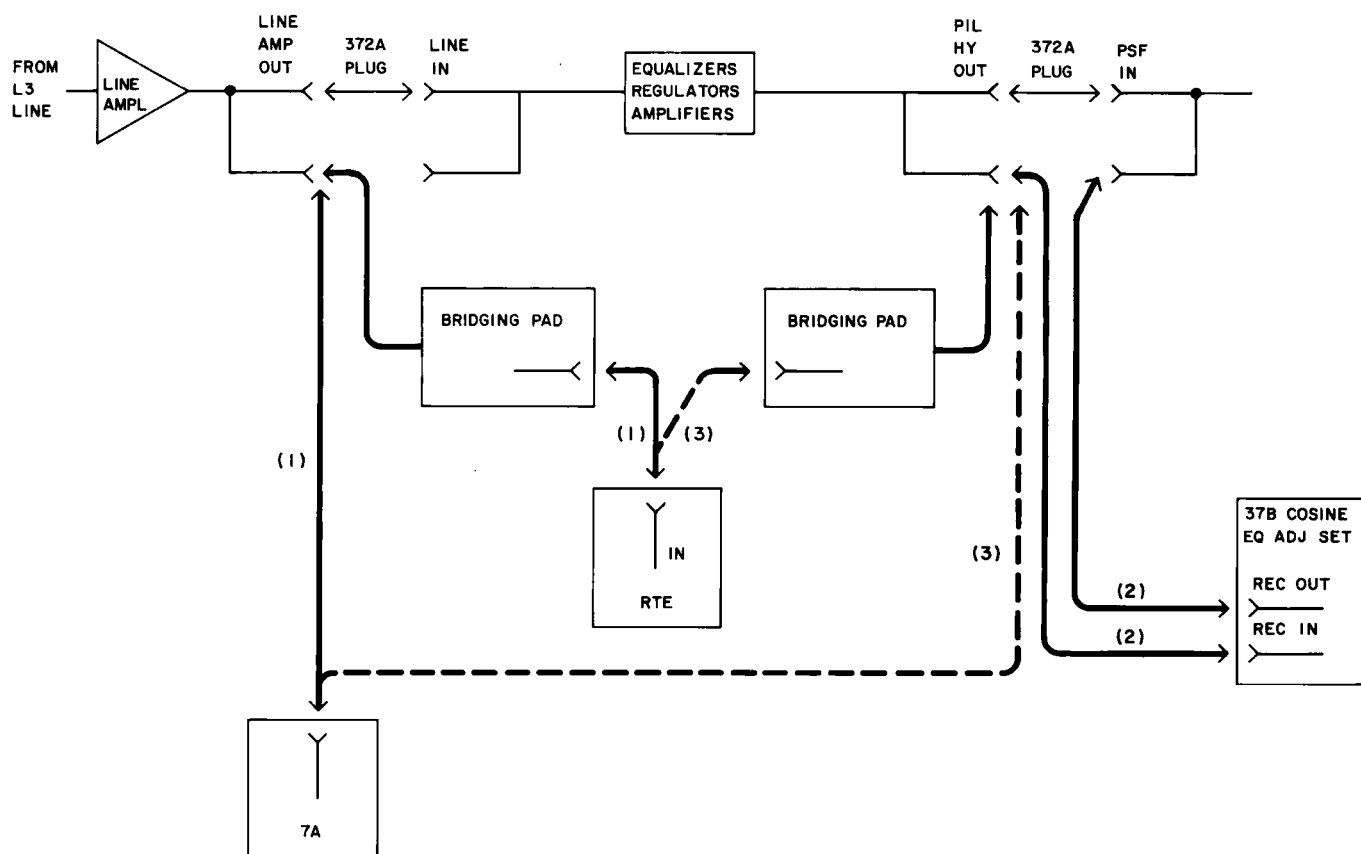

Fig. 6—Test Connections for Gain Equalization at Equalizing Main Repeaters
- 13 Connect the RTE to the LINE AMP OUT multiple jack (patch (1), Fig. 6).
18	Connect the 37B cosine equalizer adjustment set REC IN jack to the PIL HY OUT A multiple jack and the REC OUT jack to the PSF IN multiple jack [patch (2), Fig. 6].
28	Connect the RTE to the PIL HY OUT A multiple jack [patch (3), Fig. 6].
38	Connect the RTE to the PIL HY OUT A multiple jack [patch (3), Fig. 6].